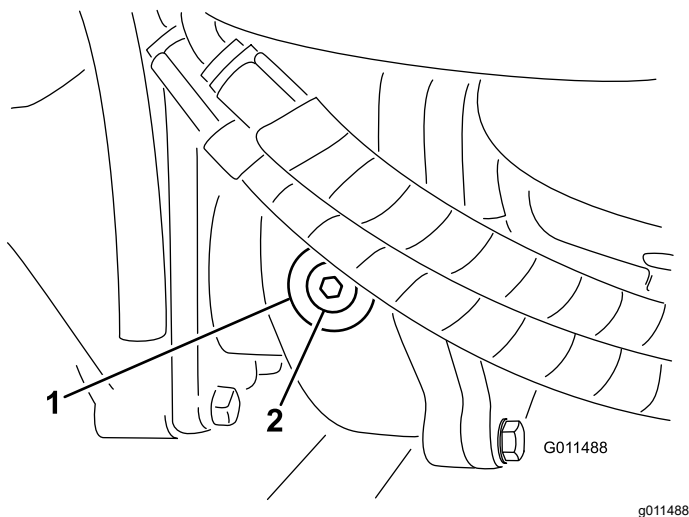

Figure 73
2. Remove the check/fill plug from the left side of the gear box and ensure that lubricant is up to the bottom of the hole (Figure 73).